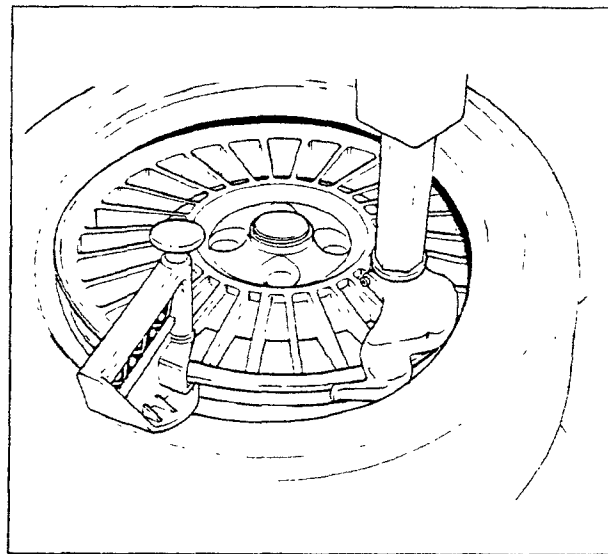

Fig.18
C. Mount the upper bead following the directions in section B. With low profile tires the bead depressor tool (OPTION #4003444) Fig.18 can help to ease the mounting of the top bead.